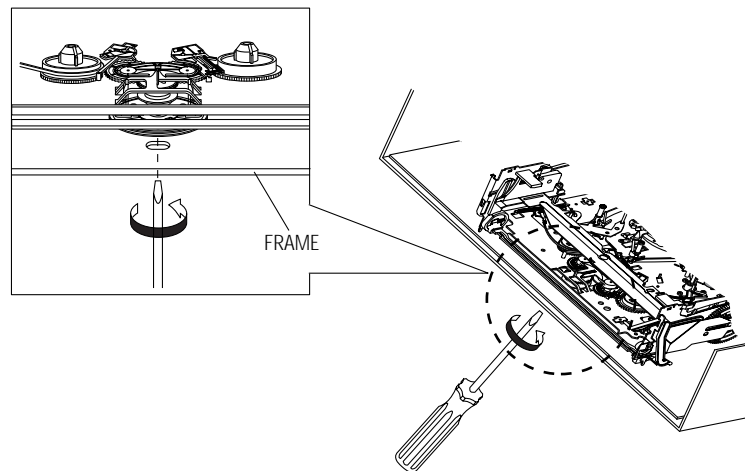

Fig. 3
- 2) When Slider S, T are approached in the position of unloading, rotate holder Clutch counterclockwise after inserting screw driver in the hole of frame's bottom in order to wind the unwianded tape. (Refer to Fig. 3)